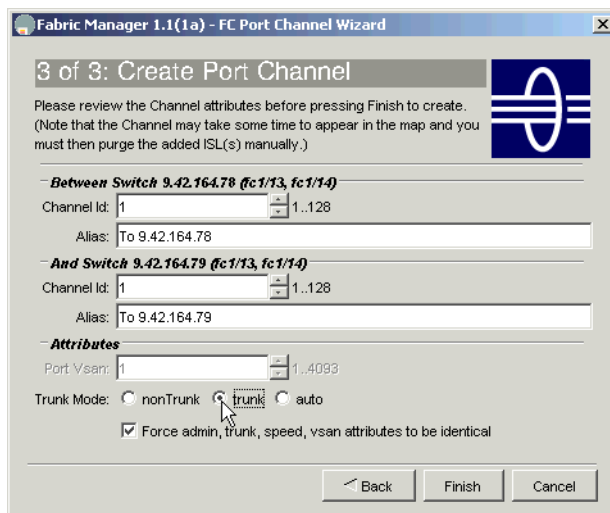

Figure 2-84 Creating a PortChannel 3
3. Choose the parameters for the new PortChannel, as shown in Figure 2-84. Note that you have to choose the correct Trunk Mode parameter here, if you want to use the PortChannel for multiple VSANs. Click **Finish**, when finished.